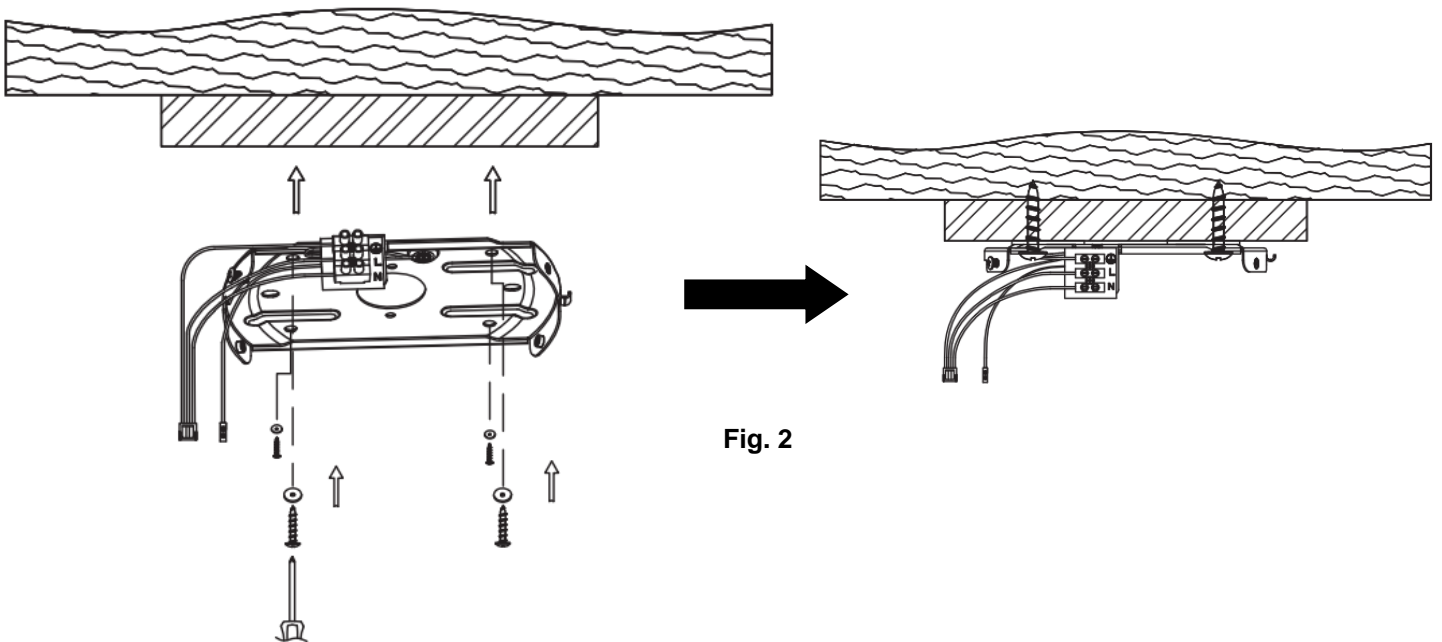

Fig. 2
- When install the ceiling fan on a wooden ceiling, use the 4 pcs wood mounting screws provided to secure the mounting bracket to the wooden square or beam. Ensure at least 30mm of the screw is threaded into the support. (Fig. 2)